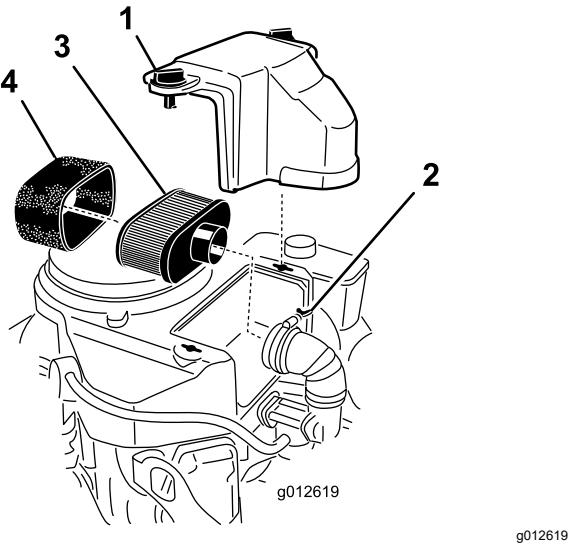

Figure 41
3. Clean around the air cleaner to prevent dirt from getting into the engine and causing damage (Figure 41).
4. Loosen the cover knobs and remove the air-cleaner cover (Figure 41).
5. Loosen the hose clamp and remove the air-cleaner assembly (Figure 41).
6. Carefully pull the foam element off the paper element (Figure 41).
1. Carefully slide the foam element onto the paper element (Figure 41).
2. Place the air-cleaner assembly onto the air-cleaner base or hose and secure it (Figure 41).
3. Place the air-cleaner cover into position and tighten the cover knobs (Figure 41).
1. Clean the paper element by tapping it gently to remove dust. If it is very dirty, replace the paper element (Figure 41).